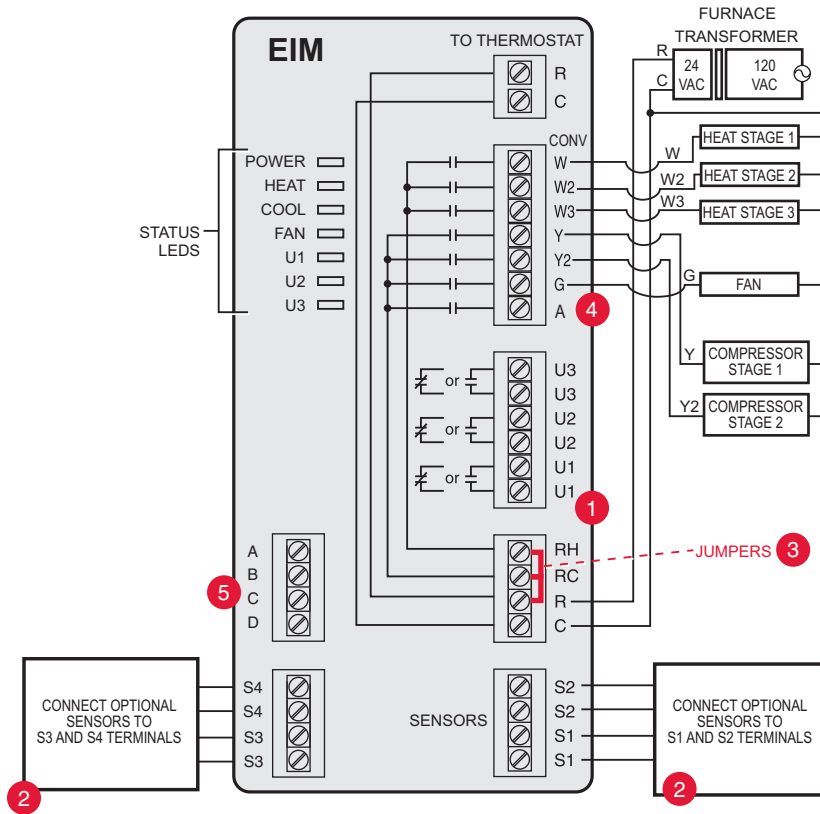

Fig. 314. EIM wiring guide – conventional systems.
All wiring must comply with local electrical codes and ordinances. See Fig. 314–353.
6. See Fig. 314–338 for typical wiring hookups.